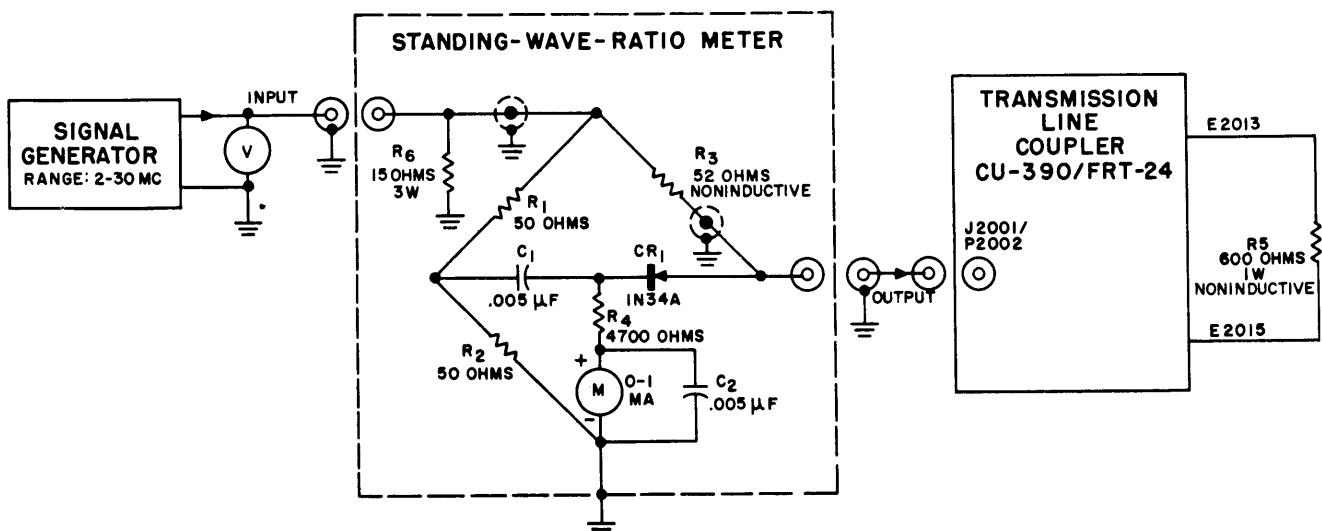

Figure 7-14. Test Setup for Measuring SWR of Transmission Line
(3) CHANNEL INDICATOR METER ADJUSTMENT.—Proceed as follows:
d. TRANSMISSION LINE COUPLER CU-390/FRT-24.—Measuring the standing-wave ratio (SWR) with the test setup shown in figure 7-14 provides a quick indication of the condition of Transmission Line Coupler CU-390/FRT-24. A typical resistance-bridge-type SWR meter is shown in figure 7-14 and construction data for the same is given in this paragraph, in the event a suitable measuring device is not available. The ratio of maximum to minimum current indication on milliammeter M determines the stand-